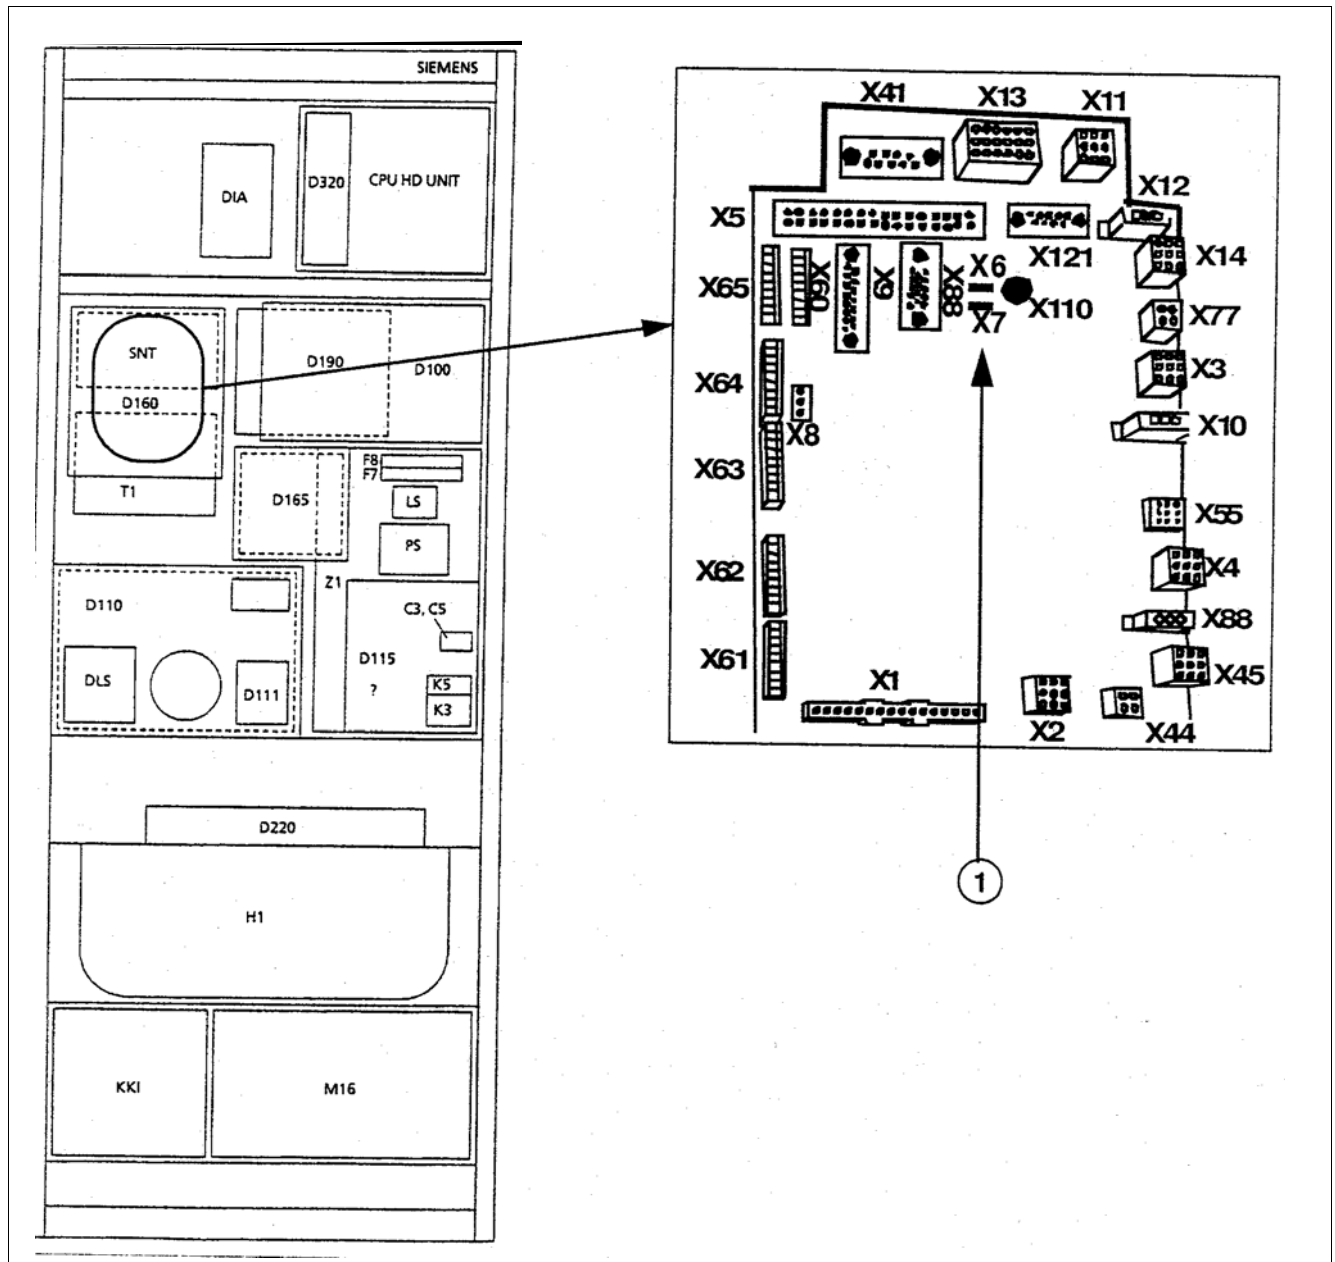

Fig. 5 Polydoros SX65/80 - D160
- Remove jumper X6-X7 (1/Fig. 5) on D160.
- Measure the resistance between X6 ($0V_L$) and X7 (PE).